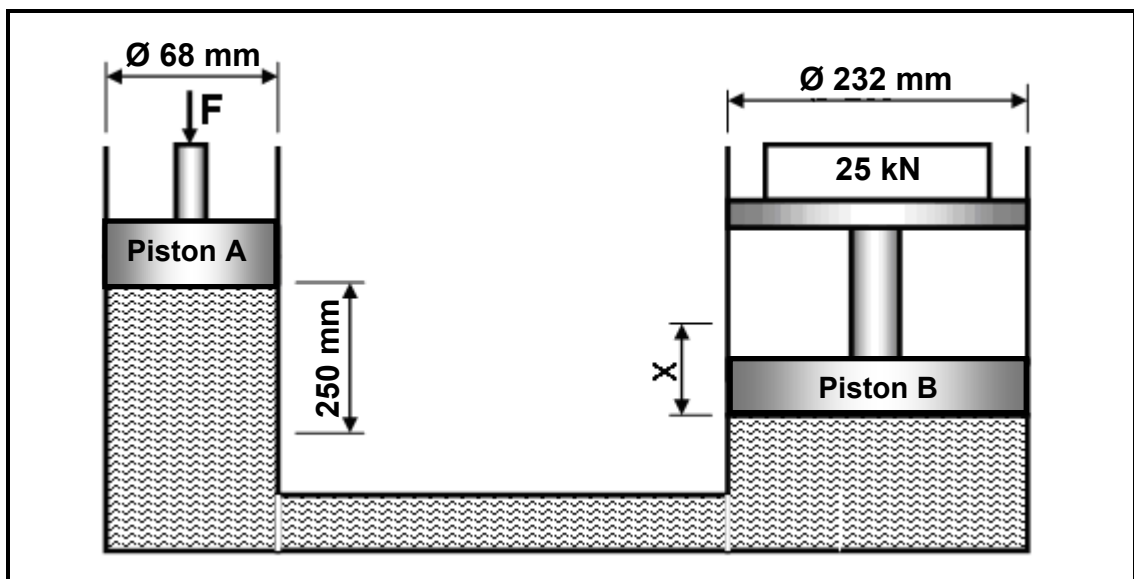

FIGURE 6.1
6.1 A hydraulic system is used to lift mechanical machines. The specifications of the system used are represented diagrammatically in FIGURE 6.1 below. The system is equipped with the necessary one-way control valves to prevent the fluid from flowing back after each stroke.